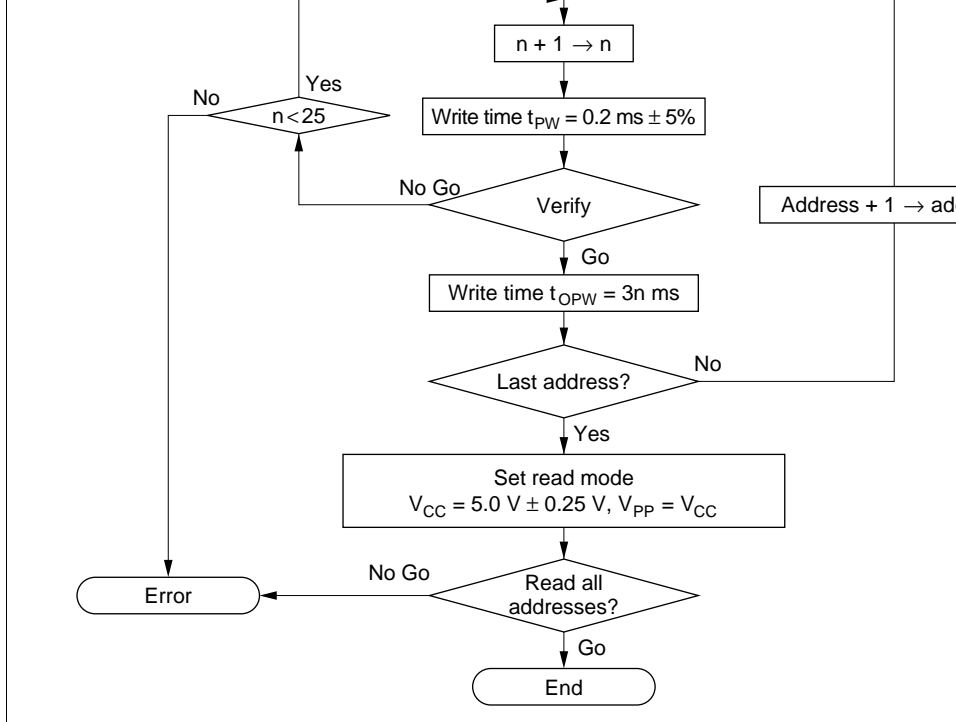

Figure 6.4 High-Speed, High-Reliability Programming Flow Chart
An efficient, high-speed, high-reliability method is available for writing and verifying data. This method achieves high speed without voltage stress on the device and without the reliability of written data. The basic flow of this high-speed, high-reliability programming method is shown in figure 6.4.
- t_{OPW} is defined by the value given in figure 6.4, High-Speed, High-Reliability Programming Flow Chart.